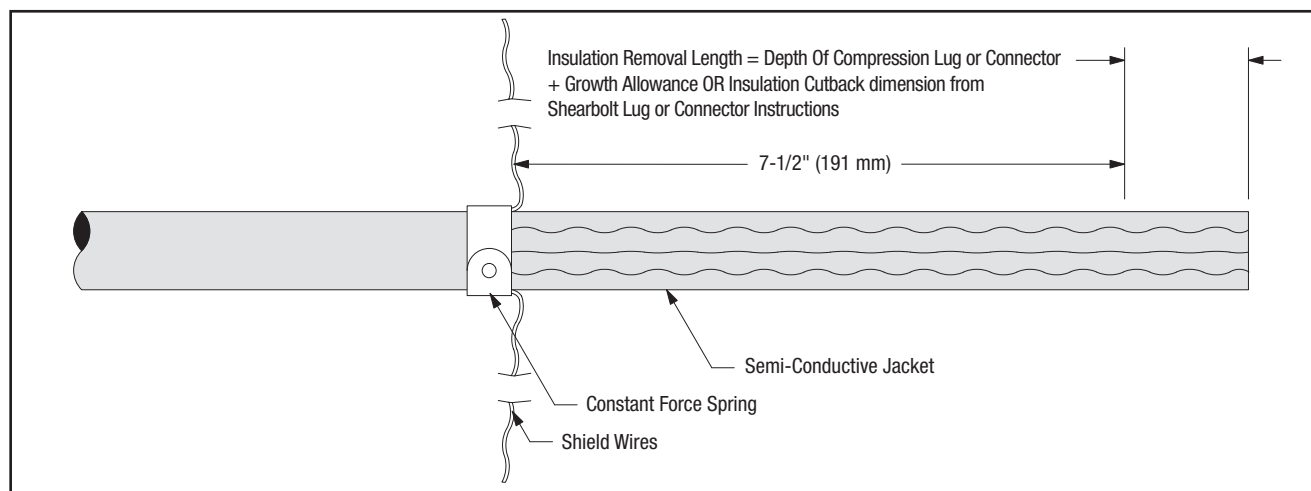

Figure 18
- 12.2 Prepare cable using dimensions shown in Figures 18, 19 and 20. **BE SURE TO ALLOW FOR DEPTH OF TERMINAL LUG.**
12.4 Install constant force spring as shown in Figure 18. Pull shield wires through semi-conductive jacket to leading edge of constant force spring.